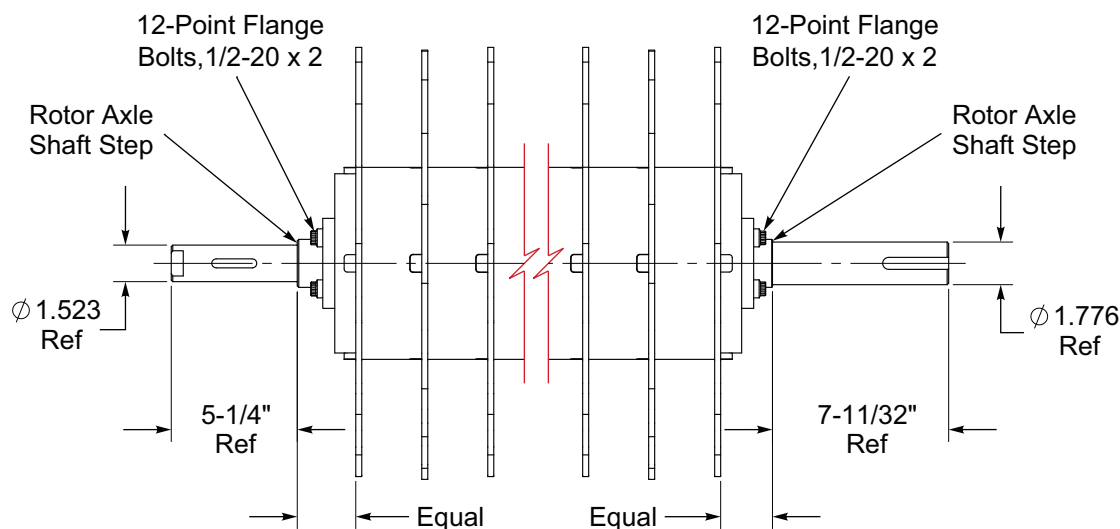

Figure 4-9: Tillage Rotor
13. Repair Tillage Rotor as necessary. **See Figure 4-9.**